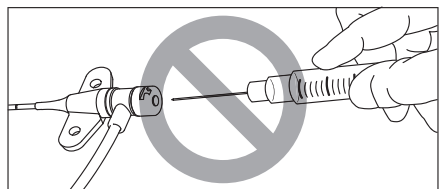

Figure 11
- ⚠ **Precaution:** Never attempt to insert a needle or a blunt cannula into the seal in back of catheter hub (refer to Figure 11).